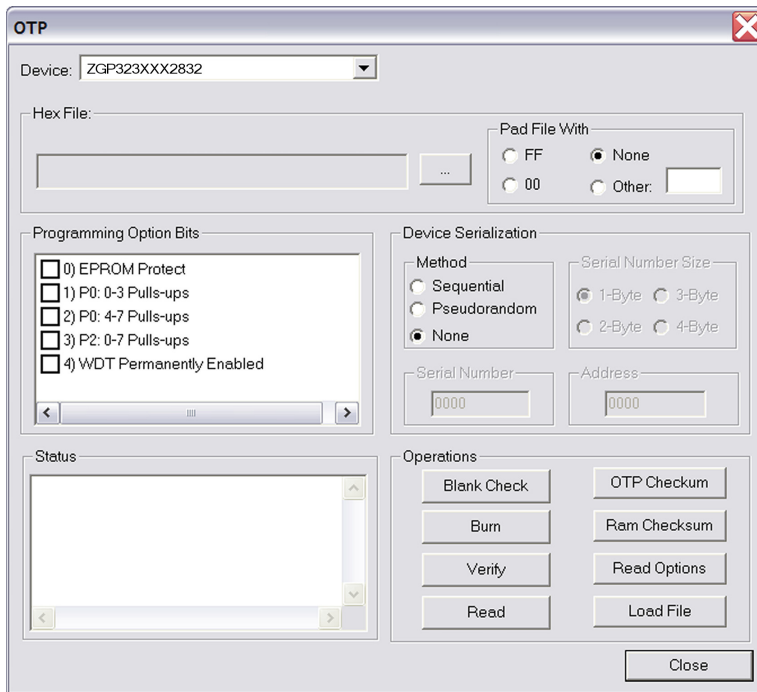

Figure 4. OTP Programming Window (Hex File Example)
7. Select Tools > OTP Programming to open the OTP window (Figure 4).